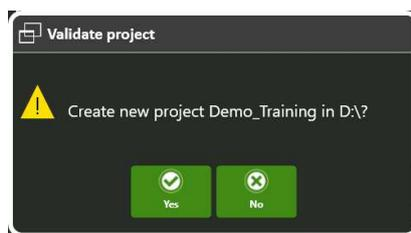

Figure 49. Validate new project dialog.
3. Select -> **Create**, to open the *Validate project* dialog (Figure 49).